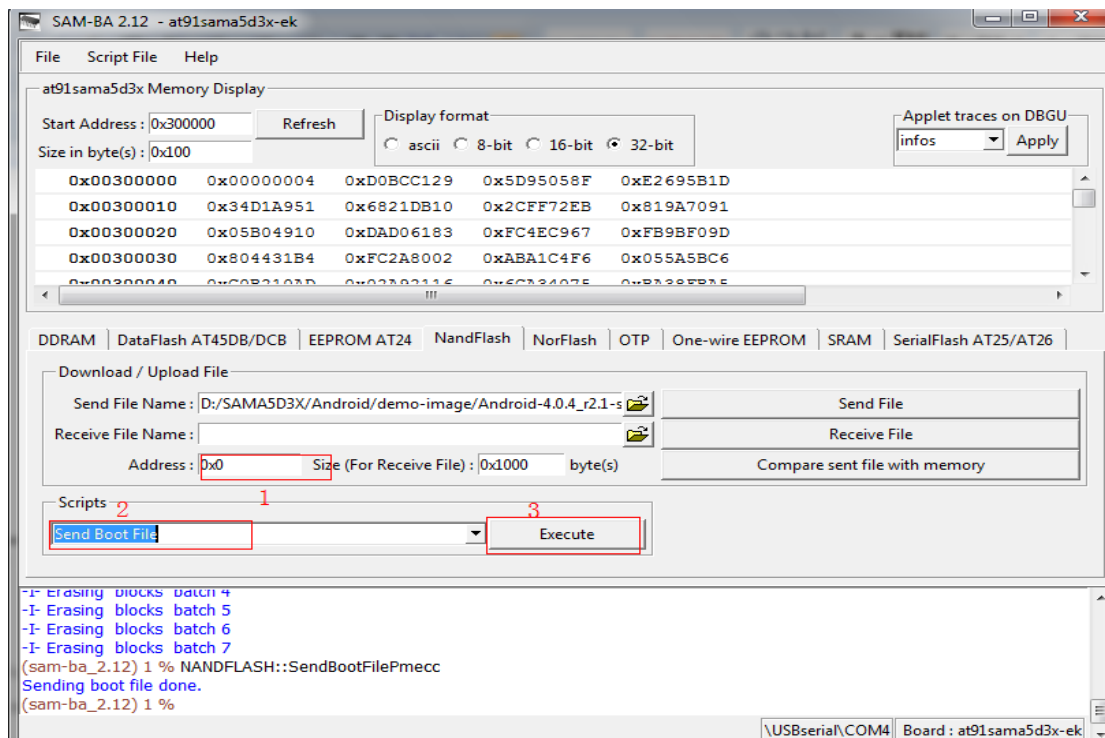

Figure 4-10
(6) Download [boot.bin]. Refer to figure 4-10, 4-11: